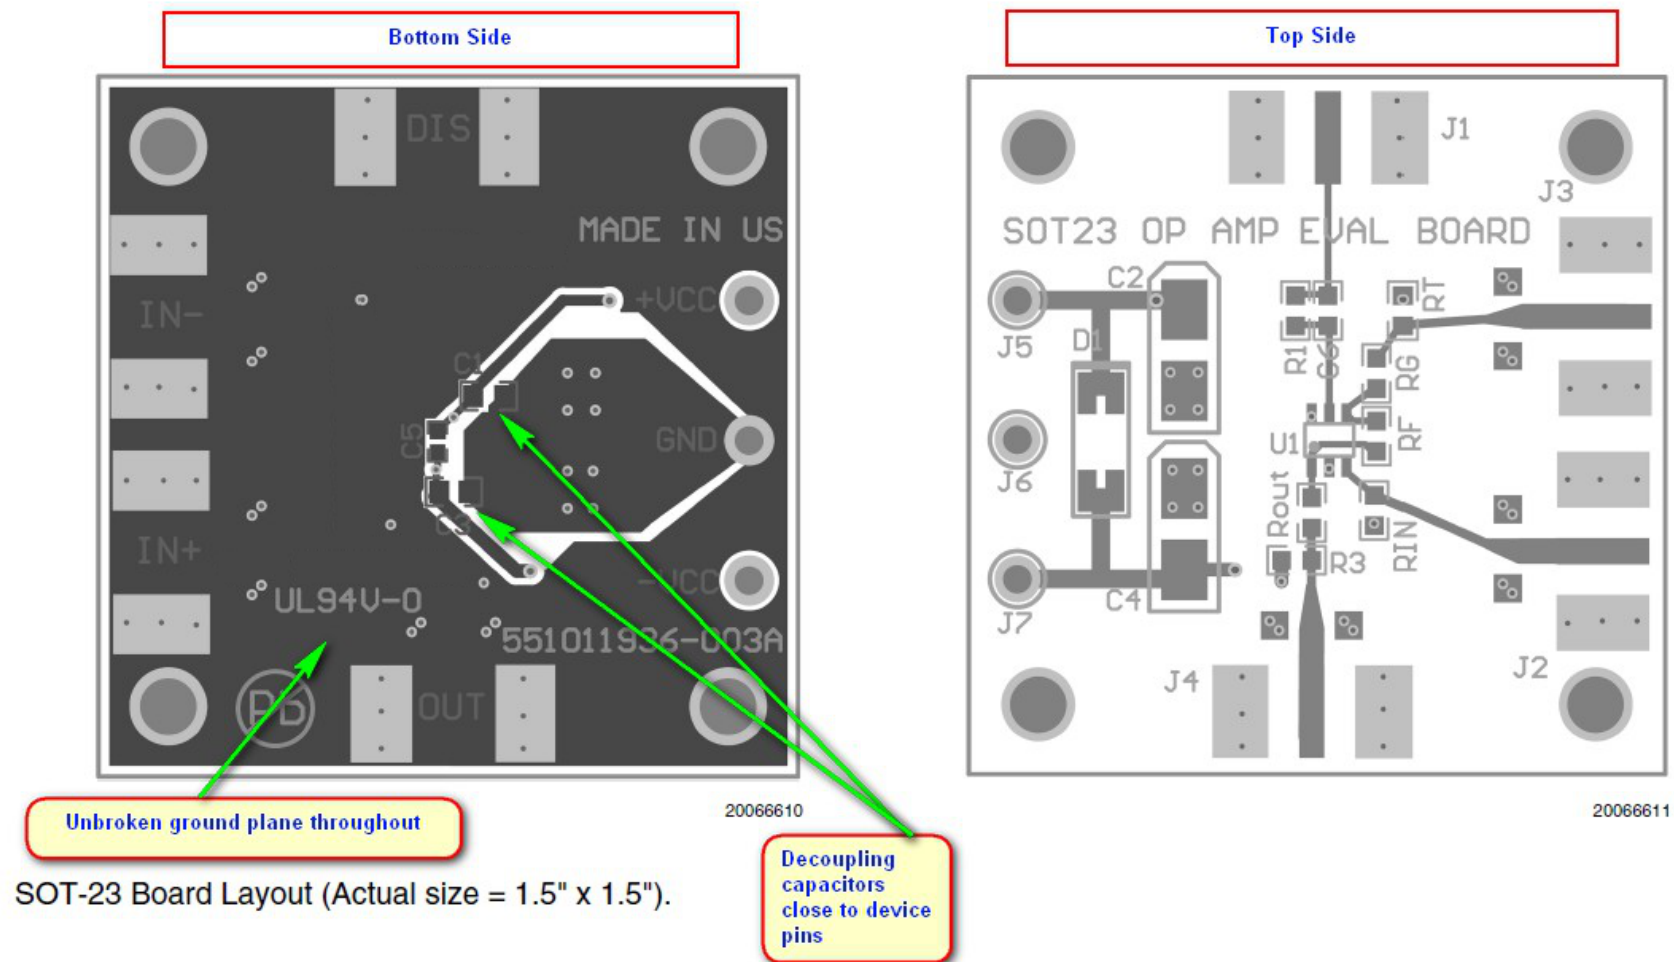

Figure 20. SOT-23 Board Layout Example
1. Power supply bypassing is critical, and will improve stability and eliminate possible output chatter. A decoupling capacitor such as 0.1- μ F ceramic should be placed as close as possible to V^+ pin (and to $V-$ pin if used with dual supplies) as shown in Figure 20. An additional 2.2- μ F tantalum capacitor may be required for extra noise reduction.
4. Use a PC board with a good, unbroken low inductance ground plane as shown in Figure 20. Make sure ground paths are low-impedance, especially where heavier currents are flowing.